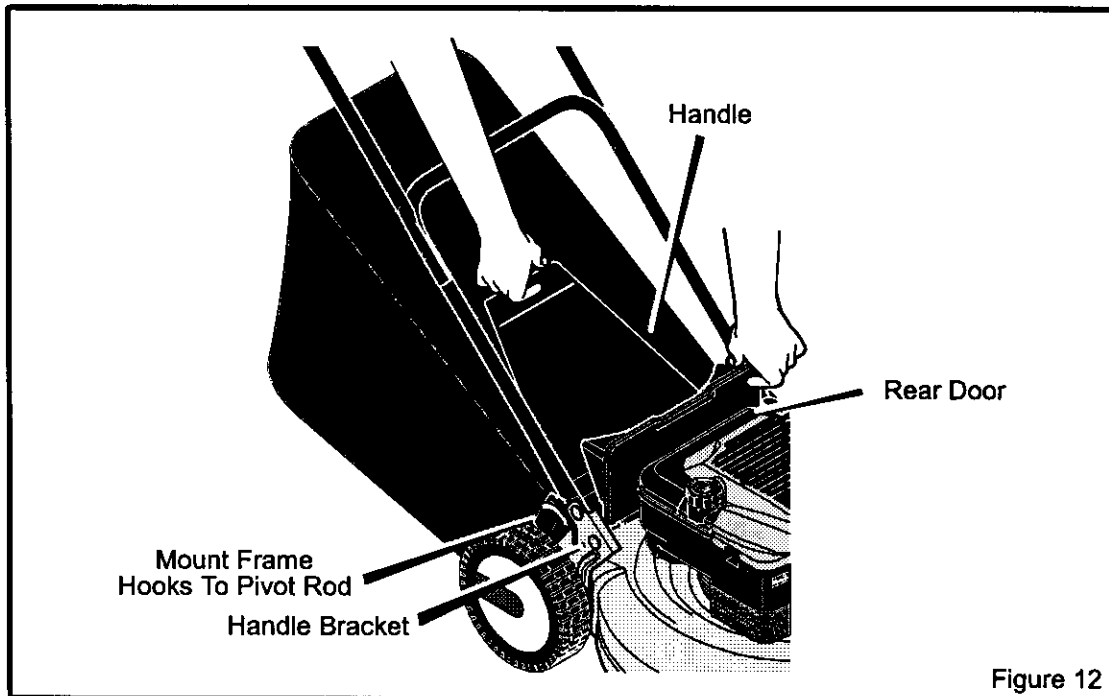

Figure 12
1. To mount the grass bag on the mower, raise the rear door. Hold the handle of the grass bag. Put the grass bag in the operating position (Figure 12). Lower the rear door.
1. Hold the rear door. Raise the rear door to a vertical position (Figure 12).